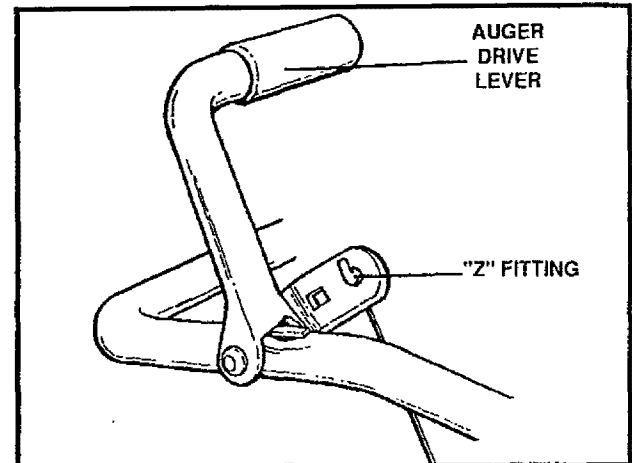
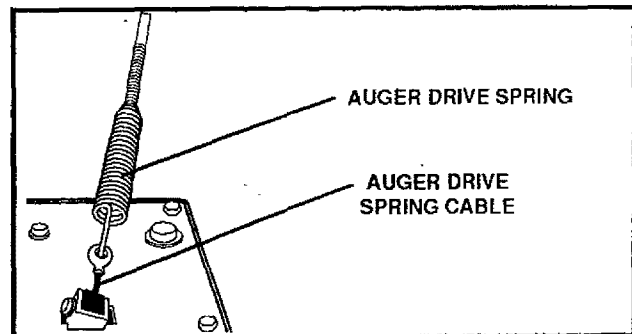

FIG. 3
FIG. 3A
**NOTE:** If the cables have become disconnected from the clutch lever, reinstall the cables as shown in FIG. 3 and FIG. 3A.